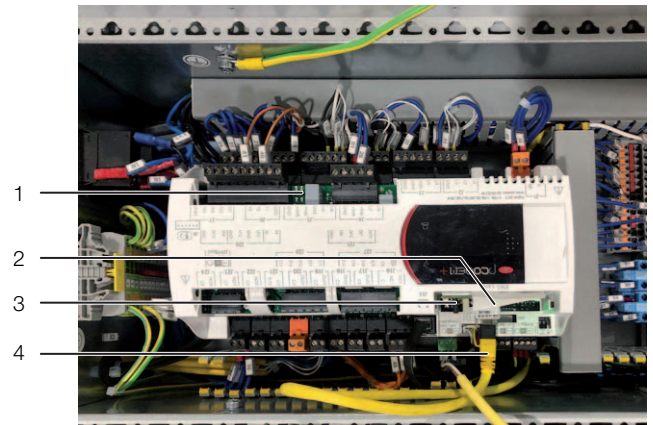

Fig. 34: pCO Web card
- Press the Reset button (fig. 34, item 3), if necessary with the assistance of a second person, and keep it held down for around 10 seconds whilst the card is booting up, until the status LED flashes three times slowly.